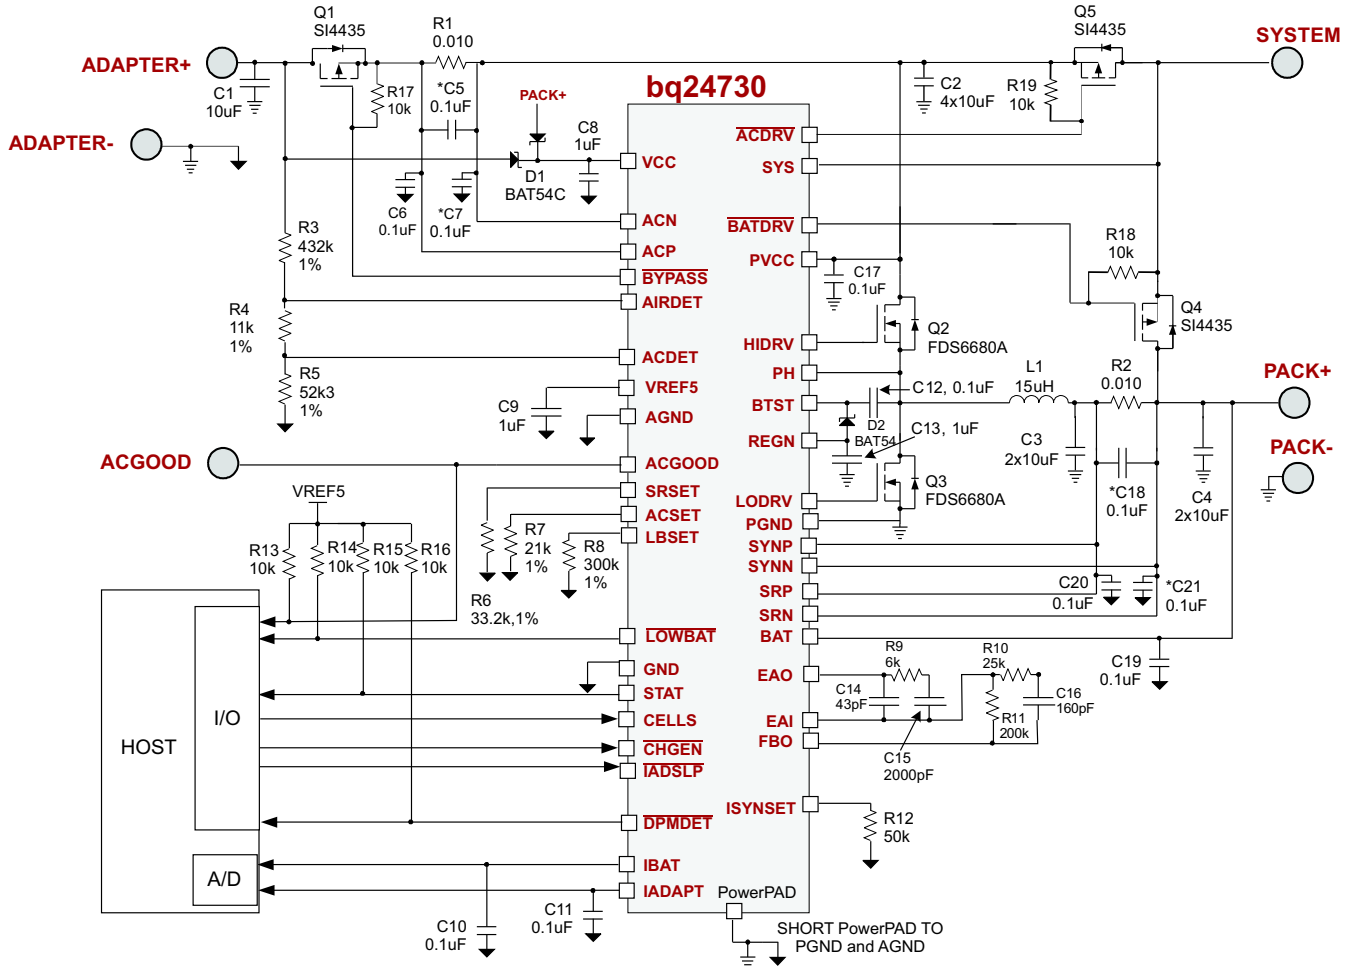

Figure 26. bq24730 Host Control With System Power Selector
**BOM Key Components (For Figure 26, bq24730 Typical Application Circuit)**
(1) The manufacturer's part number are used for test purposes only.
**BOM Key Components (For Figure 26, bq24730 Typical Application Circuit) (continued)**